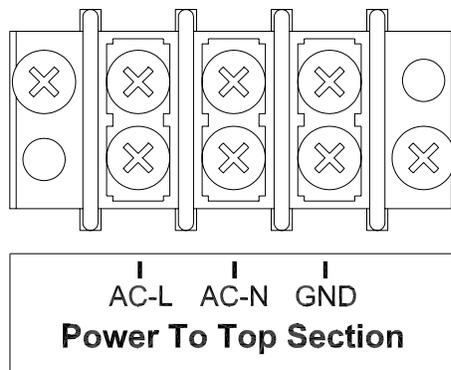

Figure 7 Power to Top Section Connections
3. Connect the cable to the terminal block labeled **Power to Top Section** according to Figure 7.